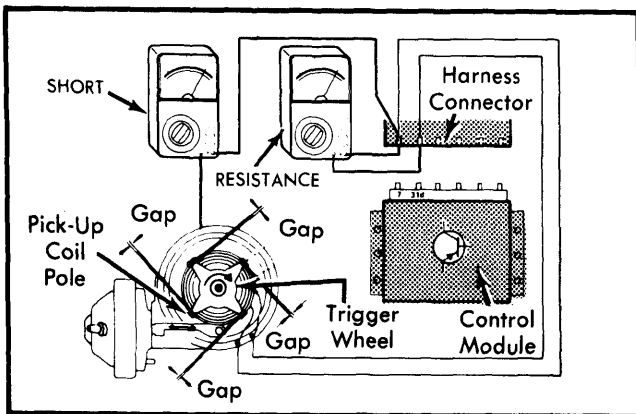

Fig. 5 Ohmmeter Hookups for Pick-Up Coil Resistance and Short Checks
2) On all other models, turn ignition switch off and disconnect connector from control module. Connect ohmmeter leads (set in x100 scale) to terminals 7 and 31d of harness connector. See Fig. 5. Measure pick-up coil resistance.
Check trigger wheel and pick-up assembly for damage. Also check visually for air gap between trigger wheel and pick-up coil. See Fig. 5. If damaged or if air gap is not to specifications, replace distributor (if components cannot be replaced individually). Check dwell angle and compare with specifications. If not within specifications, repeat Pick-Up Coil Resistance, Short and Visual Checks. If OK, then replace control module.